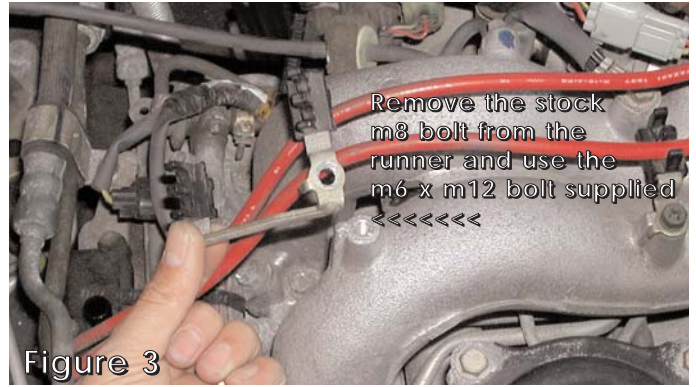

Figure 3
3. Remove the stock m8 bolt from the runner holding the ground line. See fig. 3